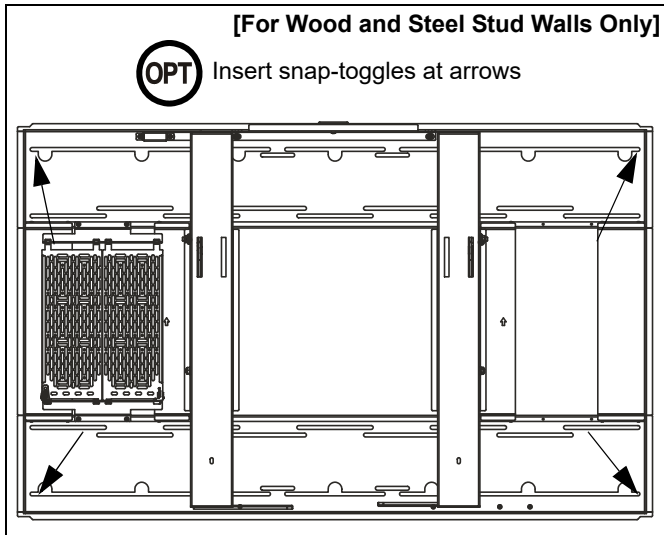

Figure 7
**IMPORTANT !** : (**OPTIONAL for wood and steel stud installations**) For additional rigidity in the installation, use a Snap-Toggle (AC), 1/4-20 x 1-3/4" Phillips screw (AD) and 1/4" washer (AE) at each corner of the rear frame if it is not attached to the studs at those points. (See Figure 7)
**IMPORTANT ! : (OPTIONAL for wood and steel stud installations)** For additional rigidity in the installation, use a Snap-Toggle (AC), 1/4-20 x 1-3/4" Phillips screw (AD) and 1/4" washer (AE) at each corner of the rear frame if it is not attached to the studs at those points. (See Figure 7)